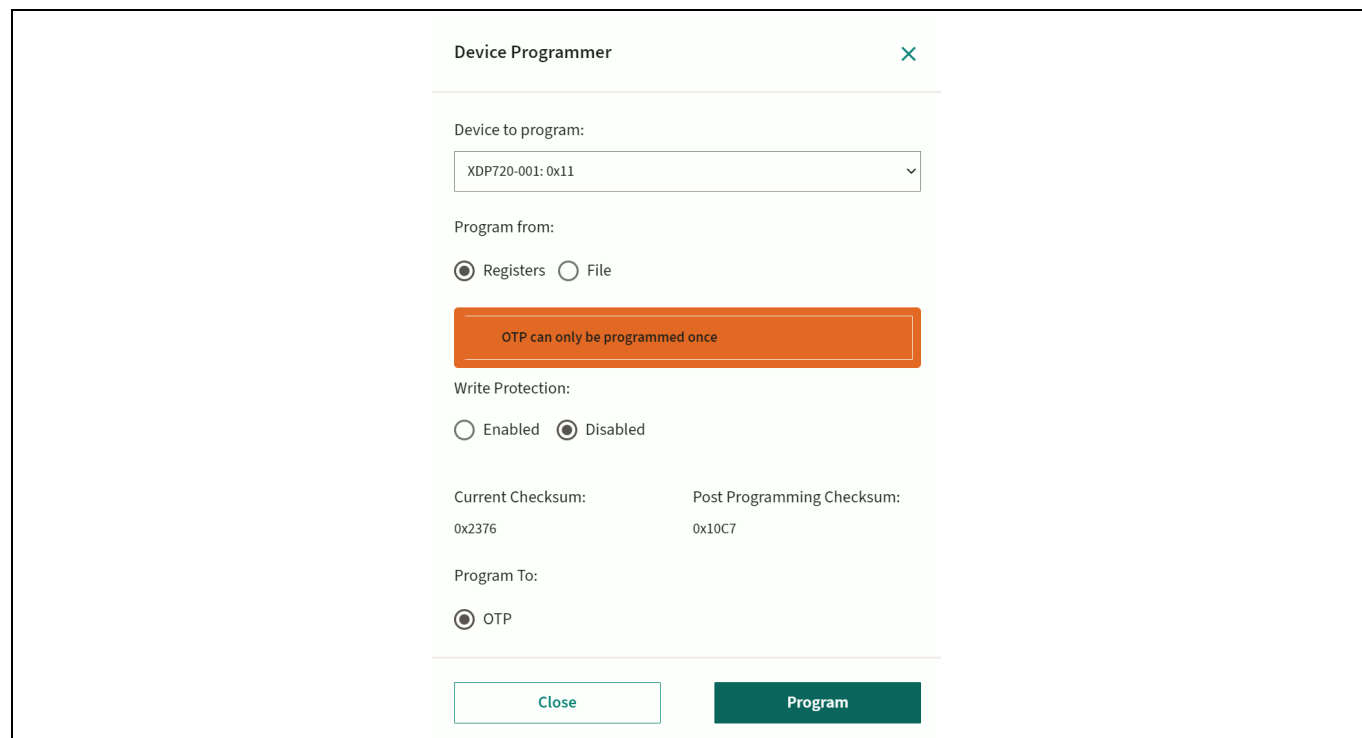

Figure 41 **OTP programming**
- Set the program from **Registers**, select the memory section **Program to OTP** that needs to be programmed and then click **Program**, as shown in Figure 41